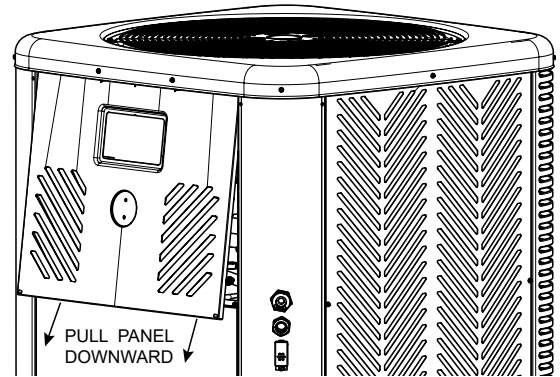
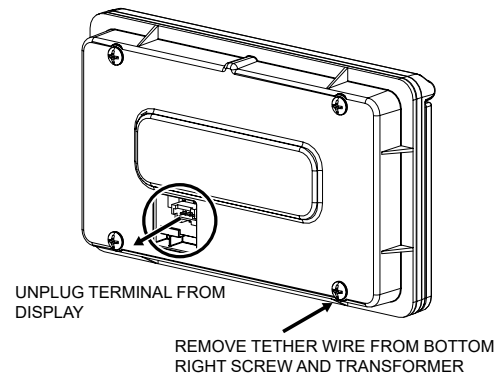

Figure 128. Detach Front Panel
Figure 129. Remove Wiring from Display
3. To remove the front panel, pull the bottom of the panel downward and outward, and then disconnect the wire attached to the rear of the user interface. The panel should now be free for removal. See Figure 128 and Figure 129.